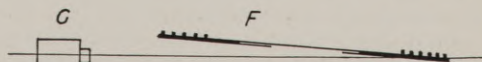

Fig. 11
2. For perspective distortion and depth of focus determination, place "fence", *F*, Figure 11, with distant background obliquely before camera, *C*, with fence post vertical, far end in optical axis of the camera (test lens) with near end visible on edge of frame. Read through finder and check by photographic exposures (optical and projection investigation of print) with lens wide open at 3, 6 and 50 feet focus, for both distortion and depth of focus.